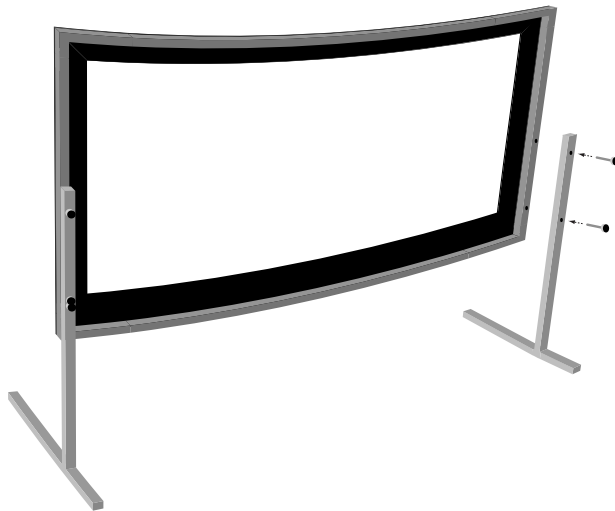

Figure 5: T-Stand
3. Use the T-stand knobs provided to attach the finished screen to the T-stands. Refer to Figure 5.